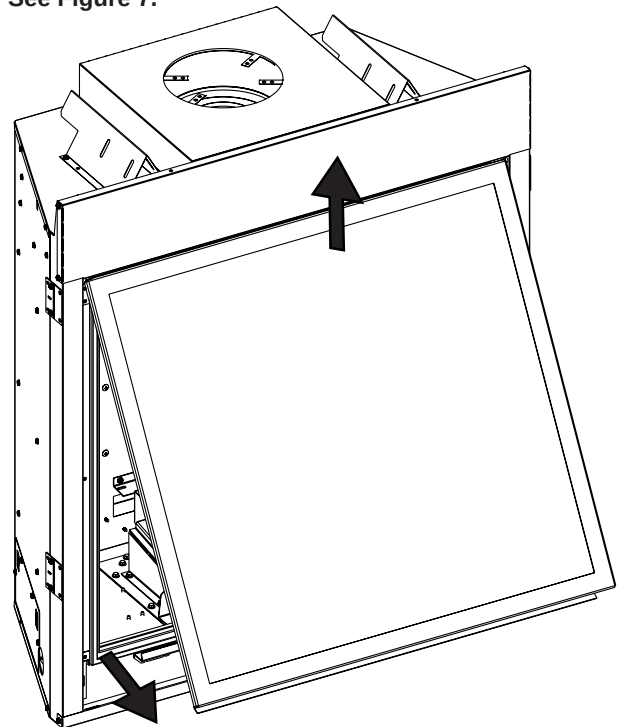

Figure 7
3. Disengage glass frame by pulling in upward swinging position. Place glass frame aside in a safe and out-of-the-way location. See Figure 7.